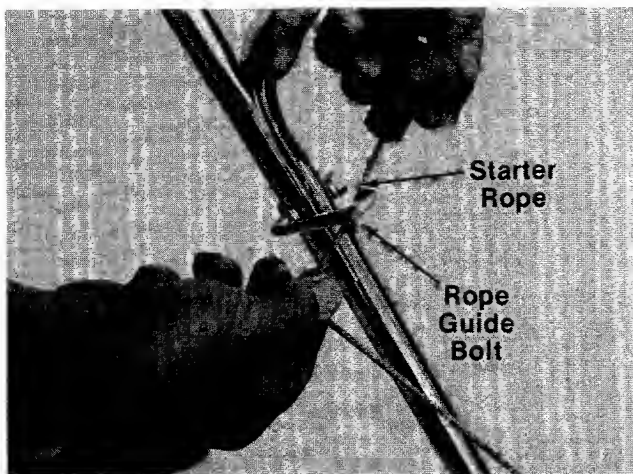

FIGURE 10.
16. Slip the starter rope into the rope guide bolt as shown in figure 10.